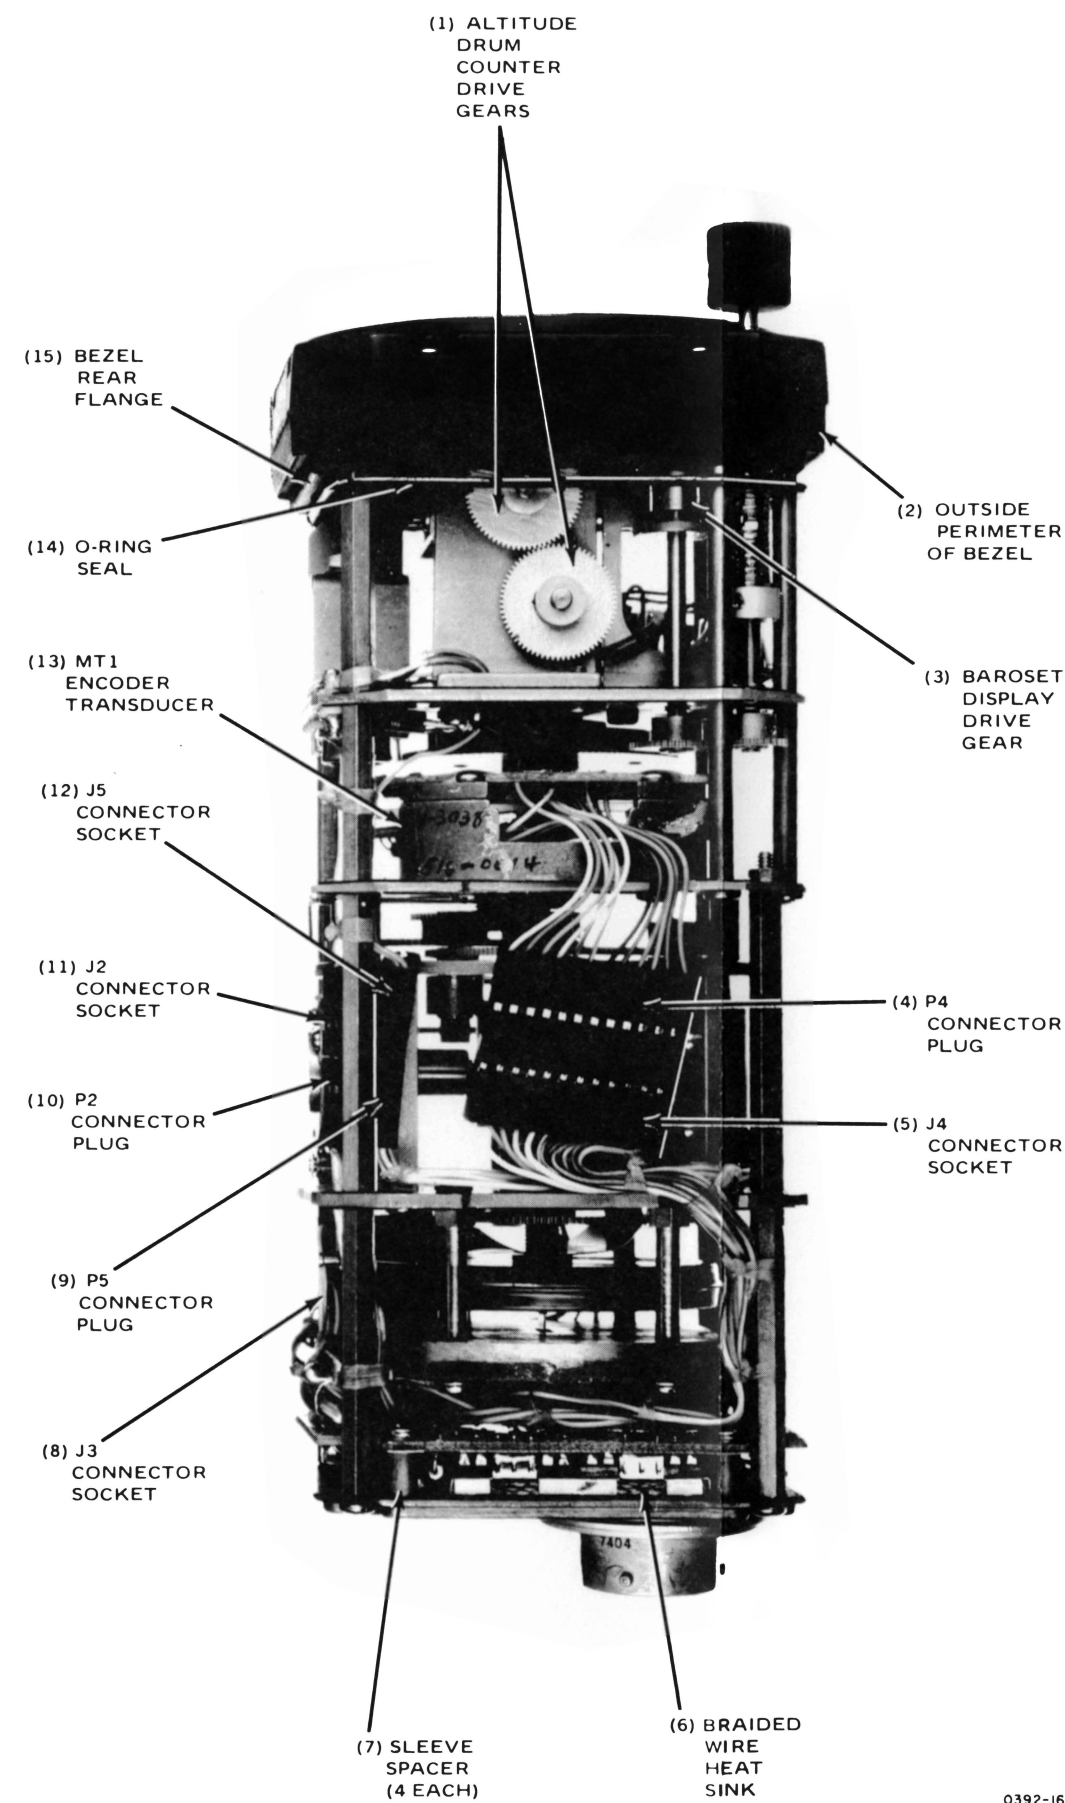

Figure 5-6. Encoding Altimeter, Left-Side View
- Step 5. When replacing cover, position O-ring seal (14, figure 5-6) on top of outside perimeter of bezel (2, figure 5-6). Carefully slide cover forward until it just engages bezel rear flange (15, figure 5-6). Hold cover in this position and then slide O-ring seal into groove between bezel and edge of cover. Slide cover forward to terminal position and partially engage one cover assembly retaining screw to retain cover. Be sure that O-ring seal is completely seated before cover is secured.
- Step 1. Disconnect connectors J3, J4, and P5 (8, 5, and 9, figure 5-6).
- Step 3. Slowly, withdraw Plate and Printed Wiring Assembly to a point where interconnecting wiring is visible. Cut only cable lacing ties necessary to free connectors J3, J4, and P5 (8, 5, and 9, figure 5-6).
- Step 3. Remove braided wire heat sink (6, figure 5-6) from its receptacle and set it aside while working with printed wiring board. Be sure to replace this item when reassembling unit.